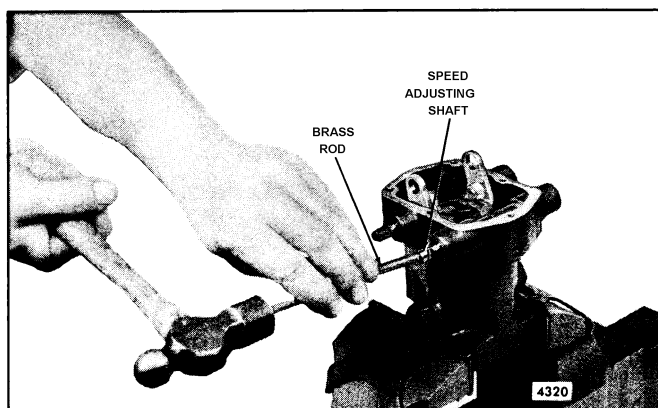

Fig. 12 - Removing Speed Adjusting Lever Shaft Cup Plug from Governor Housing
9. Drive the speed adjusting shaft and cup plug from the governor housing with a brass rod (Fig. 12). Remove the speed shaft oil seal - (Fig. 8).